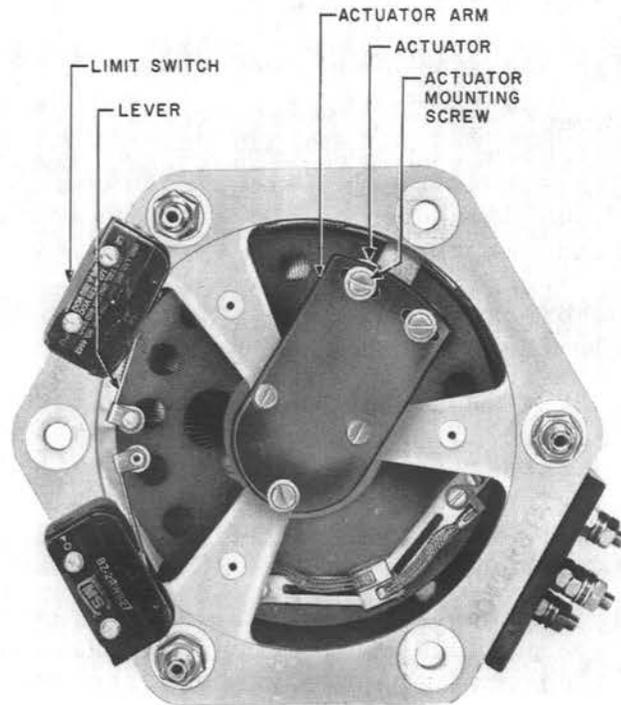

Fig. 7 - KS-15685 Autotransformer
(1) *All Autotransformers Except KS-5552 Transtat: Fig. 7*
(a) Referring to Fig. 7, hold the actuator associated with the switch and slightly loosen the actuator mounting screw with the 4-inch E screwdriver. Move the actuator along the screw slot toward the switch for earlier operation of the switch and away from the switch for later operation. Then, securely tighten the screw. In cases where the actuator is not adjustable or where further adjustment than the screw slots will allow is necessary, adjust the operation of